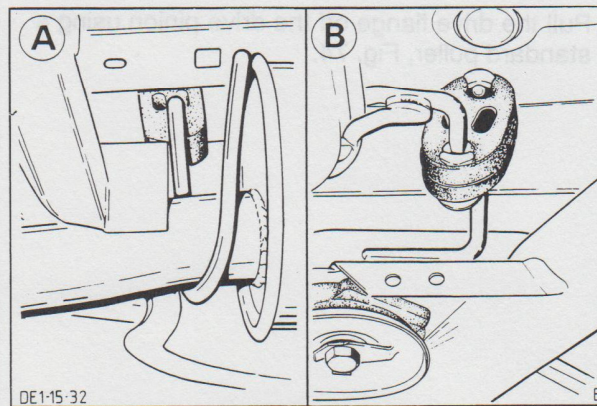

Fig. 71. A - Rear exhaust insulator
2. Unhook the rear part of the exhaust system from the insulators, Fig. 71.